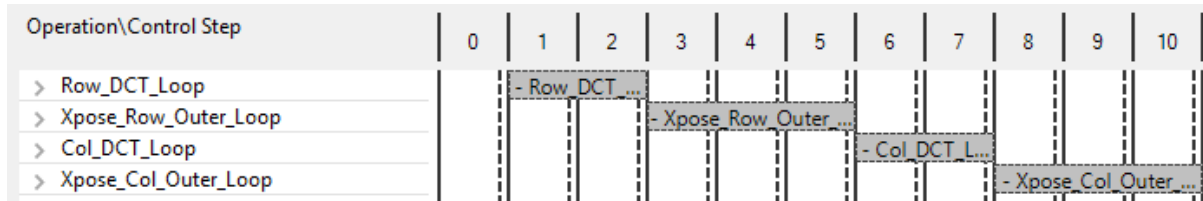

Figure 6-10: DCT\_2D Schedule Viewer
- In the Module Hierarchy pane, click the function **dct\_2d** to navigate into the view for this function (Figure 6-10).
In the Performance Profile you can see that the latency of all the loops has been substantially reduced (Row\_DCT\_Loop and Col\_DCT\_loop have been approximately halved from the earlier report in Figure 6-10). However, the majority of the latency is still due to these two loops, each of which calls the `dct_1d` block.